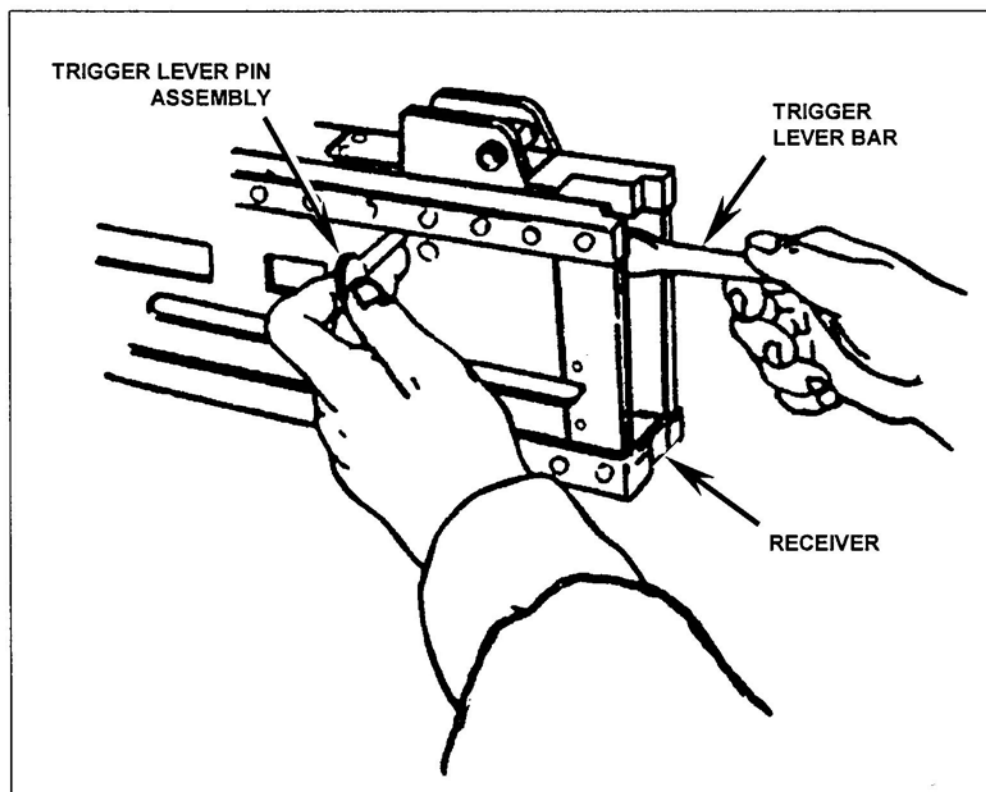

Figure 23. Assembly of the trigger lever.
- a. Assemble the trigger lever (Figure 23).